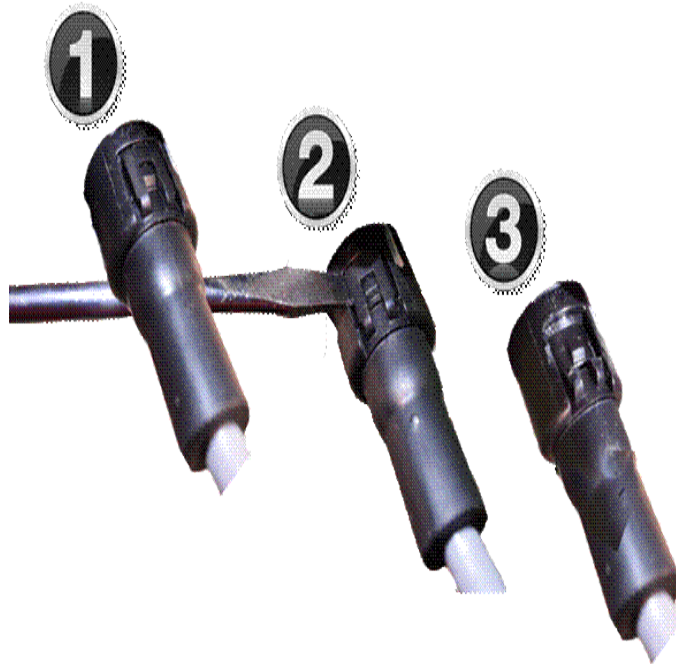

Figure 3. Locate locking tab (1), lift up on the tab with a screwdriver (2), snap tab off (3).
4. Remove the original harness from the reverse camera (Figure 3):